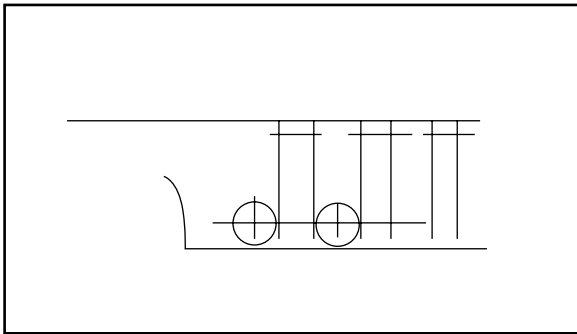

Figure 23.4 Transfer marks for the drill holes.
2. Transfer the location of the drill holes used to rough out the bolt and the location of the notches along the top edge of the bolt. Mark the drill locations with a sharp center punch. Use only well-sharpened drill bits with cutting edges that are uniform in length and ground to the same angle. This will minimize any holes from drifting out of position. The accuracy of these holes will determine the success of the lock. Start with a small diameter drill as a pilot hole, then step up to the final size, e.g., $\frac{1}{8}$, $\frac{3}{16}$, $\frac{1}{4}$, $\frac{3}{8}$ inch. After drilling the holes, use a hacksaw to remove the remaining metal. The notches along top edge of the bolt are cut using a hacksaw and chisel (Fig. 23.4).